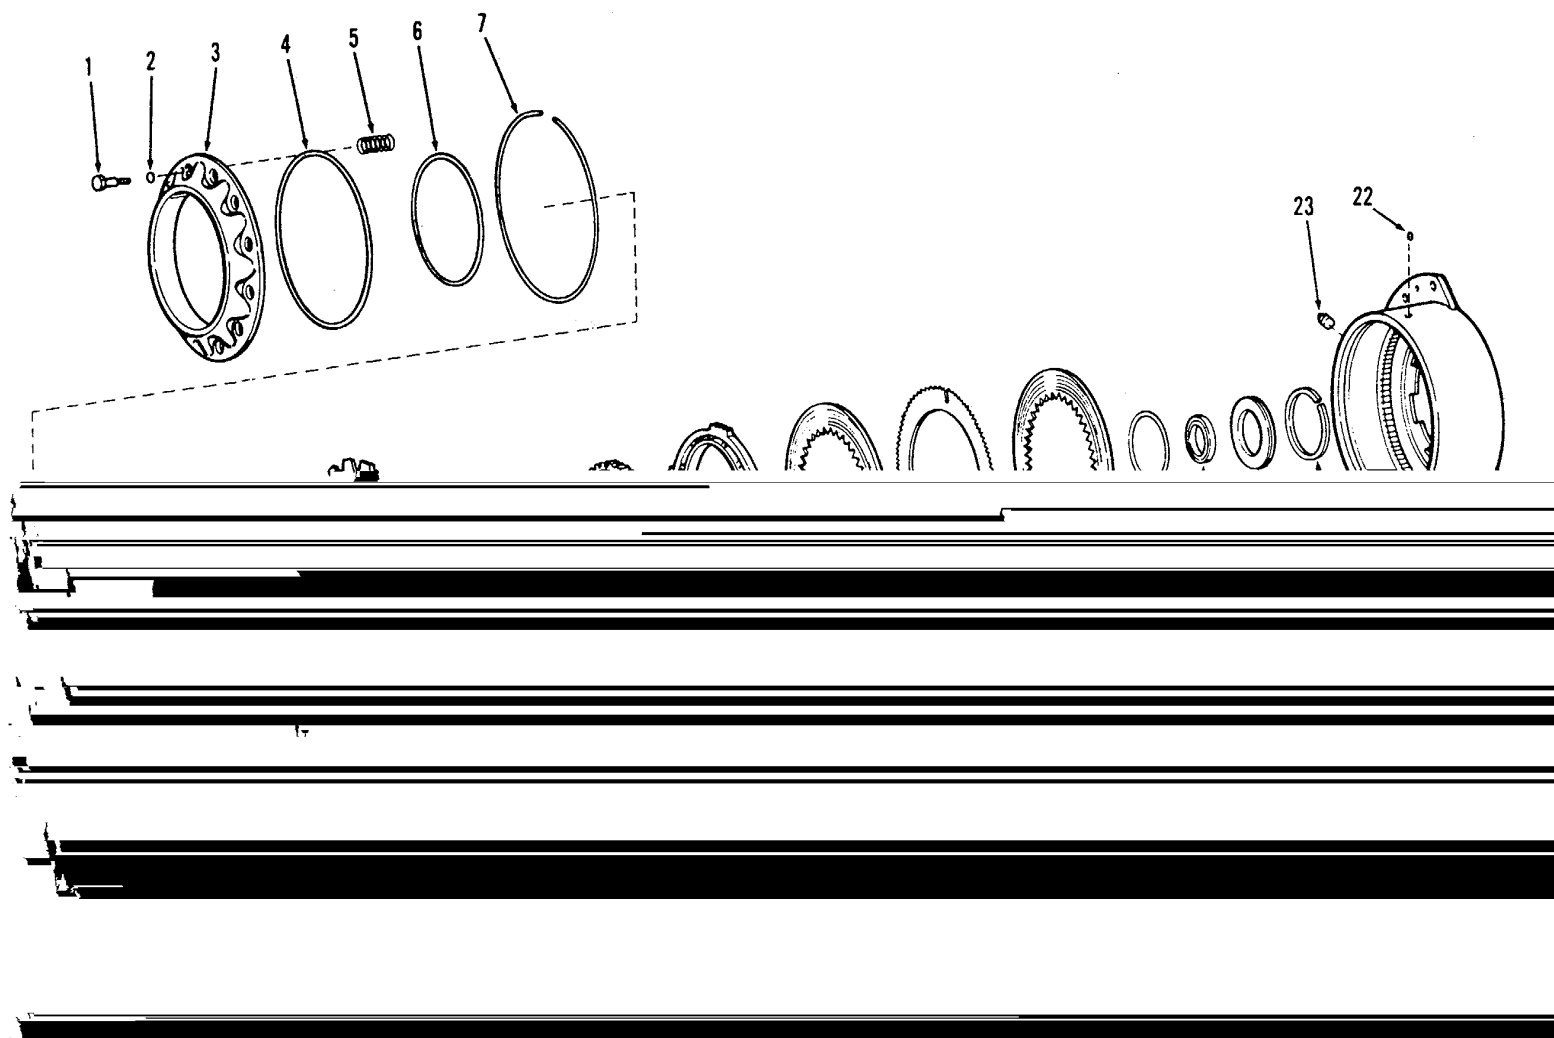

Figure 4-44. Primary drive assembly (hulls 8520-8560 and 8580-8618), disassembly and reassembly.
(a) Clean all dust and dirt away from the motor ports and vent port and disconnect the hydraulic hoses. Mark the location of the spring cover (3, fig. 4-44) with respect to the housing (21) and location of spring cover (3) with respect to the motor assembly (8), this will insure that the motor ports and vent port are located correctly on reassembly.
(l) Remove the nuts (8, fig. 4-43) and washers (7) that attach the primary drive housing (21, fig. 4-44) to the winch base (19, fig. 4-43).
(5) Primary planet assembly (12, fig. 4-44). Replace as an assembly. Disassembly by direct support or general support personnel is not recommended.
(6) Motor assembly (8, fig. 4-44). Replace as an assembly. Disassembly by direct support or general support is not recommended.
(a) Place the primary planet assembly (12, fig. 4-44) to one side and wash all other parts in solvent (FED. SPEC. PD-680). Dry thoroughly with compressed air or clean cloths. Do not wash the primary planet assembly unless it is faulty and requires to be replaced or disassembled.
(b) Lubricate preformed packing (17, fig. 4-44) with grease and install it in its groove in the seal ring (19). Give the preformed packing an additional coat of grease and install the seal ring (19) in the bore of the primary housing so that the countersunk seal face is out towards the open end of the housing (21). Tap the seal ring (19) into place with a soft hammer so that it locates against the snap ring (20) which was previously installed.
(d) Install the segments (10, figure 4-44) in the groove next to the internal teeth in the primary housing (21). Install the retainer (9) in the groove formed on the inside of the segments (10), so that the ends of the retainer (9) rest in center of one of the segments.